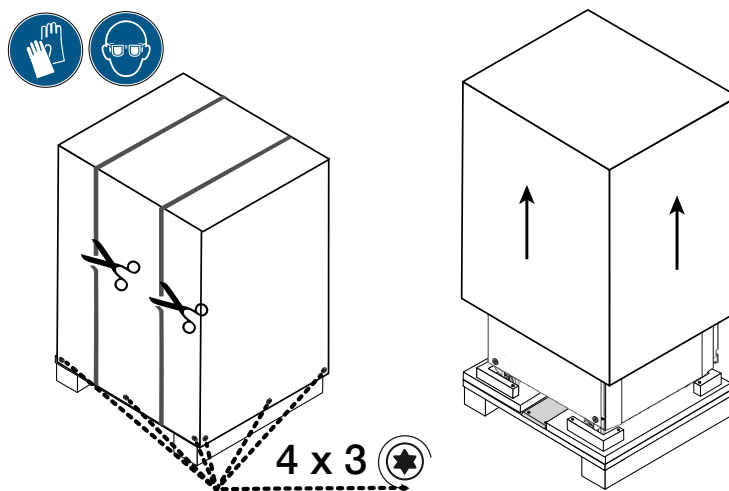

Figure 1–4: Removing the Outer Strapping and Packaging
2. Using a pair of scissors, cut and remove the outer strapping around the shipping package, as shown on the left side in Figure 1–4.